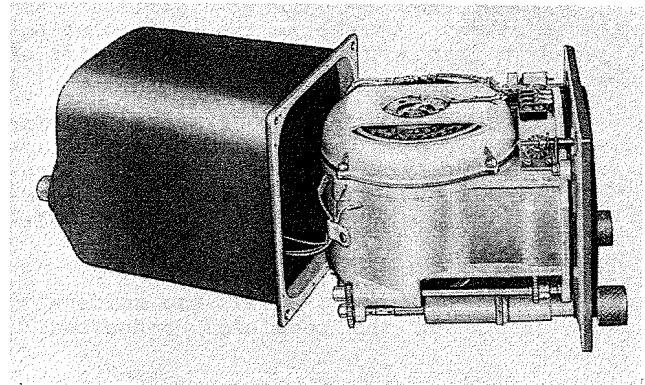

Figure 38D. Removal of Clamp Holding Three Wires to Frame
(3) Carefully slide the instrument out of the cover approximately 1-1/4 inches (1, figure 38C). Take out the three binding head screws on the rear of the terminal block (2) and remove the solder lug terminals attached to the red (3), yellow (4), and green (5) wires. Then take hold of the bezel (6) and slide the instrument out of the cover until the cable clamp on the back of the frame (if present) is exposed (figure 38D). Remove the clamp holding the three wires to the frame. The cover can now be completely removed. Lay the cover aside for further disassembly as instructed in subparagraph 2A.c.(1).